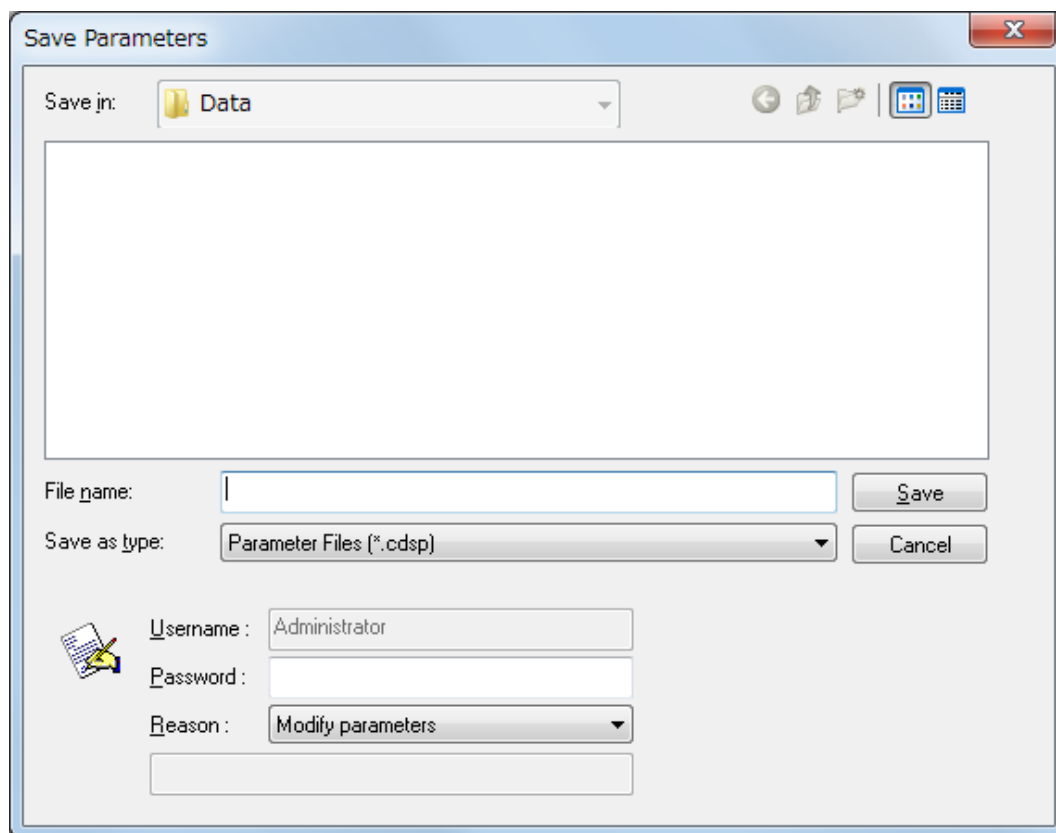

Figure 5.9 [Save Parameters] dialog box
- (6) In the CFR version, always save changes to the parameters. Click the <Save...> button to display the dialog box in Figure 5.9.